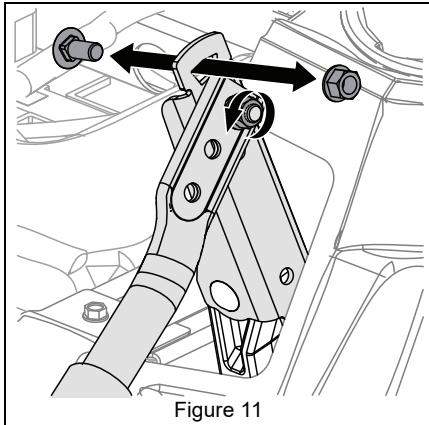

Figure 11
- Remove upper hardware from steering lever and loosen lower hardware. Retain hardware for reinstallation. See Figure 11.